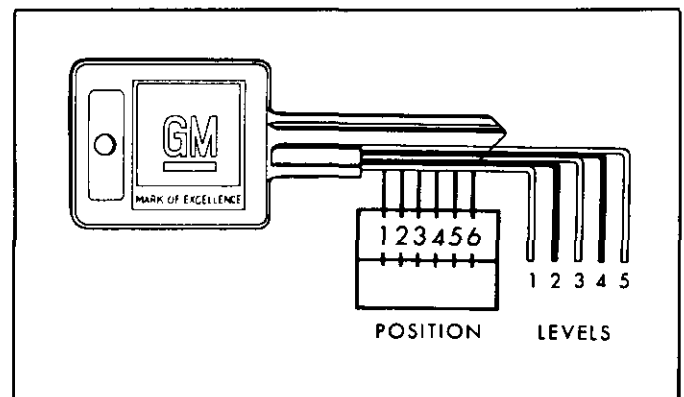

Fig. 1-1-Key Code Diagram
Key identification is obtained from the four character key code stamped on the knockout portion of the key head and an identification letter stamped on the key shank. After the code number has been recorded by the owner, plugs should be knocked out of the key head. These numbers are used to determine the lock combinations by the use of a code list (available to owners of key cutting equipment from the equipment suppliers). If key code numbers are not available from records or from the knockout plug, lock combination (tumbler numbers and position) can be determined by laying the key on the diagram in Figure 1-1.
- Without numerical key code or without code list, refer to Figure 1-1.